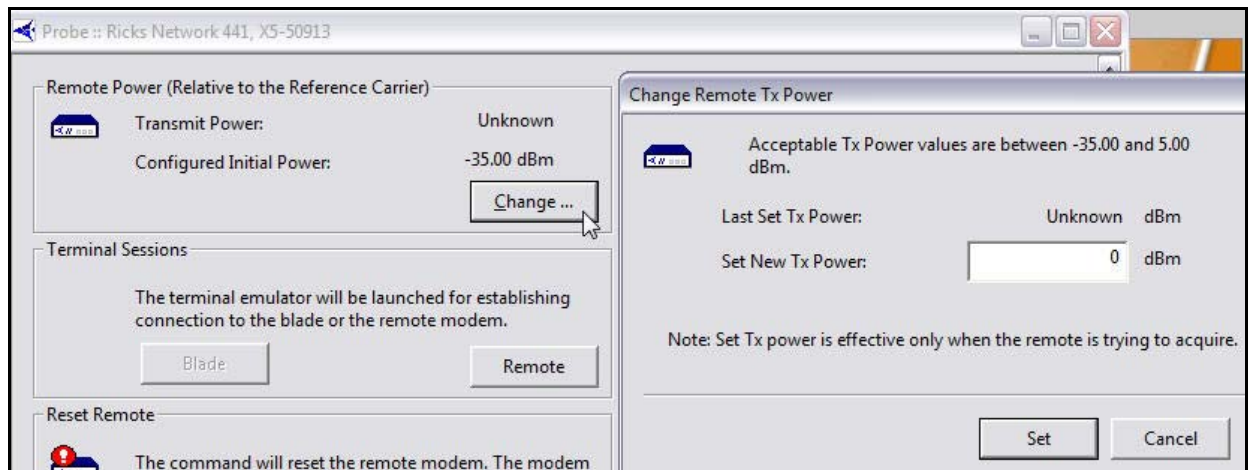

Figure 53. iMonitor Probe: Changing the Satellite Router Transmit Power
4. In the Remote Power section of the Probe dialog box, click Change to open the Change Remote Tx Power dialog box (Figure 53).
6. In the Change Remote Tx Power dialog box (Figure 53 on page 92):